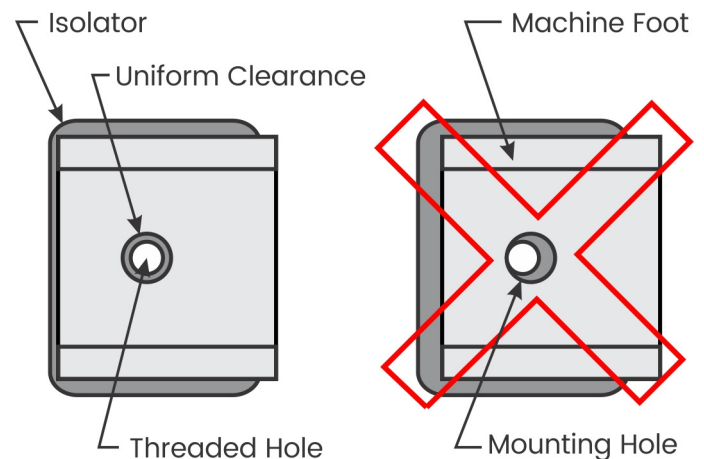

Figure 1
6. Position each isolator under the machine foot so that the threaded hole in the isolator and the machine's mounting hole are concentric as per Figure 1.